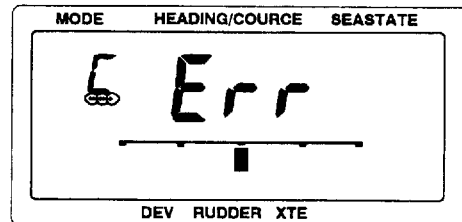

Fig. 6-5 Indication when memory could not be cleared
- The display looks like Fig. 6-5 if the memory could not be cleared. The EEPROM may be defective.